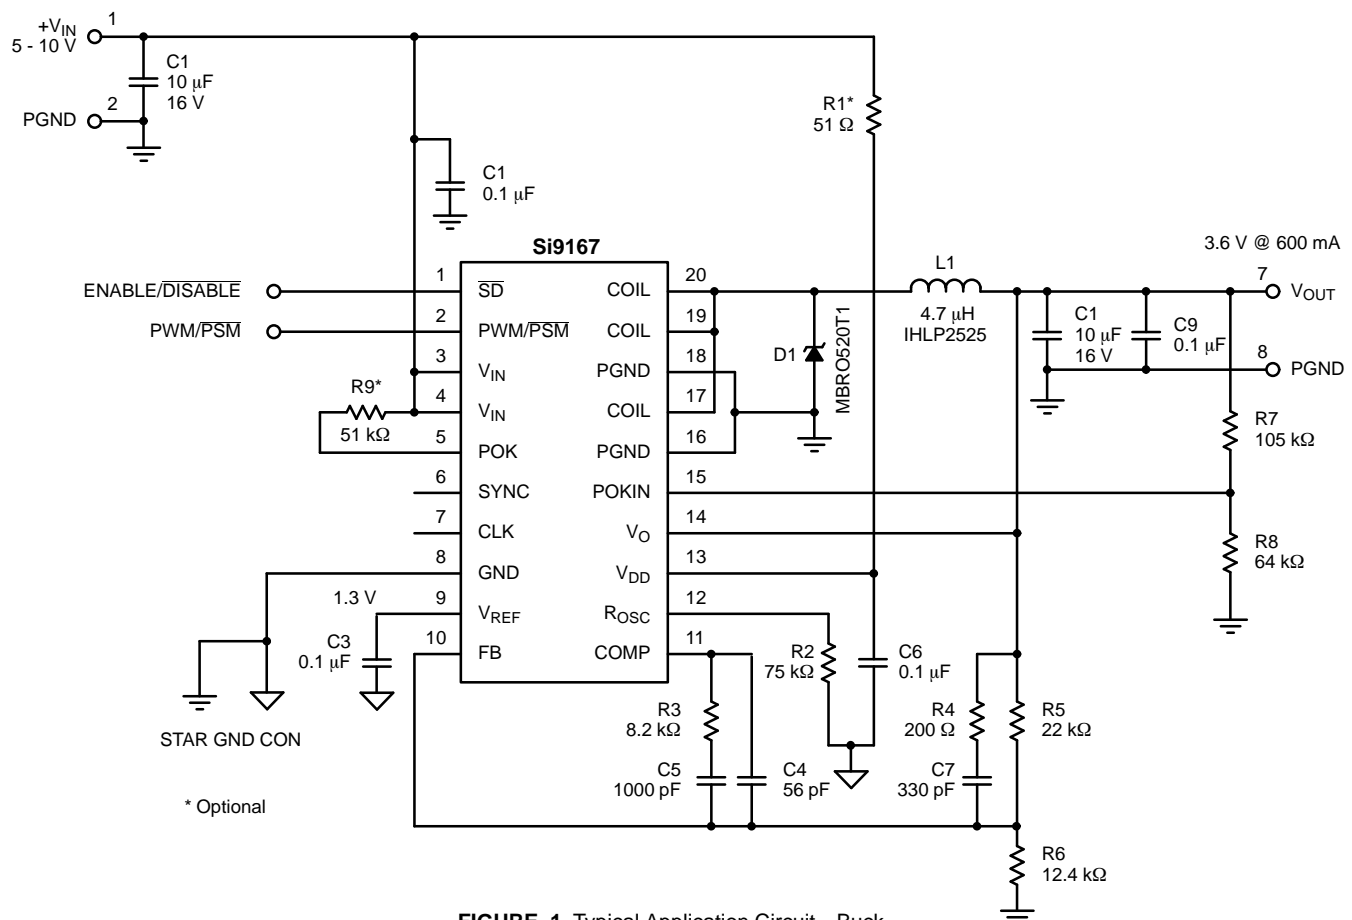
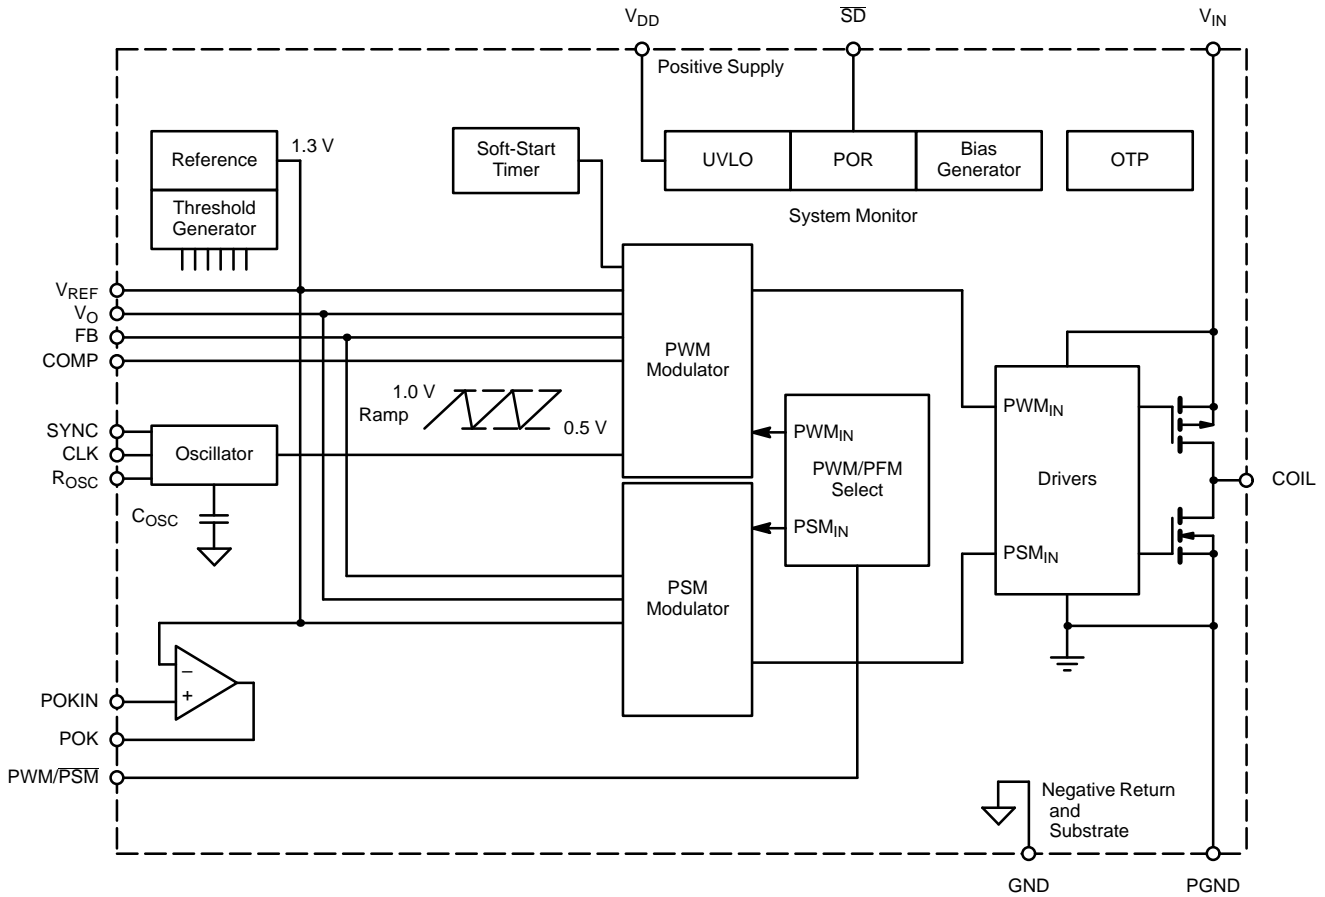

FIGURE 1. Typical Application Circuit—Buck
FIGURE 2.
The divider resistor pair, R5 and R6 in Figure 1 determine the output regulation point. Since R5 is part of the compensation network, it is strongly recommended that R6 be adjusted in order to change the regulation voltage without affecting the loop gain. With fixed R5, R6 can be easily calculated by (3) for the desired output voltage setting.
The inverting input is internally connected to the reference voltage of 1.3 V (see functional block diagram, Figure 2). This uncommitted comparator, with about 50 mV hysteresis, is intended to be used to sense the output voltage and raise a high flag once the output voltage V_{out} reaches its regulation limit. The 50-mV hysteresis at the comparator input is provided while output is transitional from high to low. The output is capable of sourcing 2 μ A and sinking 1 mA current. The source current can be increased up to 1 mA by pulling the output high with an external resistor (Figure 1). Use following equation for the POK to switch to high at a V_{OL} and to low at $[V_{OL} - V_{HYSTERESIS}]$.